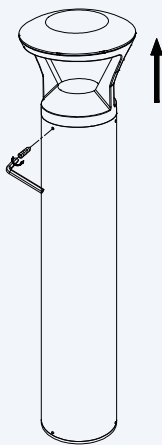

Fig 3
4. Using the hex wrench, loosen the 3 screws on the side of the head, and open the top head. **Fig. 3**